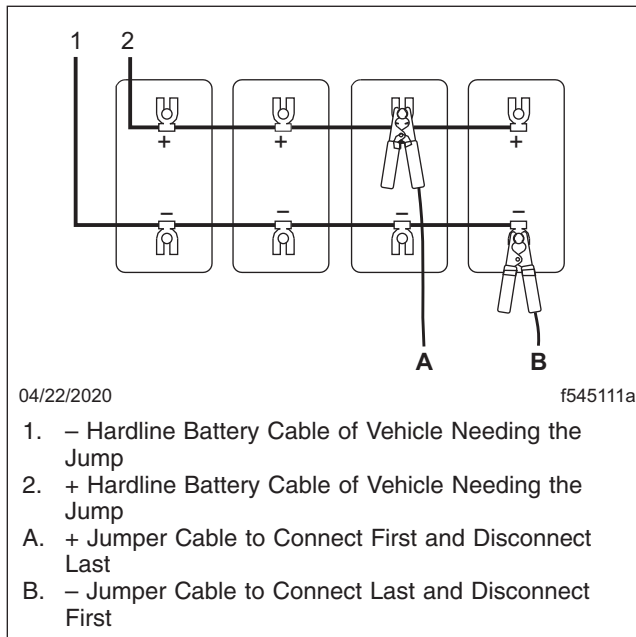

Fig. 24.2, Jumper Connections on Vehicle Needing Jump Start
3. Connect the positive (+) jumper cable to the positive battery post or jump start post on the vehicle needing the jump start. See callout A in Fig. 24.2.
6. Then connect (ground) the other end of the cable to a negative battery or jump start post on the vehicle needing a jump start. See callout B in Fig. 24.2.
10. Disconnect the negative (grounded) jumper cable from the vehicle that needed the jump start. See callout B in Fig. 24.2.
13. Then disconnect the other end of the positive jumper cable from the positive battery or jump start post of the vehicle that received the jump start. See callout A in Fig. 24.2.